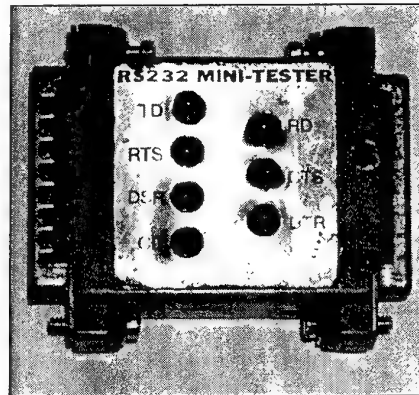

Figure 87 The RS232 Mini Tester from Jaycar.
- First make sure data is streaming down the serial cable using a serial cable tester. Several RS232 Mini Testers (see Figure 87) from Jaycar (<http://www.jaycar.com.au>) were purchased in August 2002 at DSTO, Sydney and should be able to show whether data is streaming down on the serial cable.